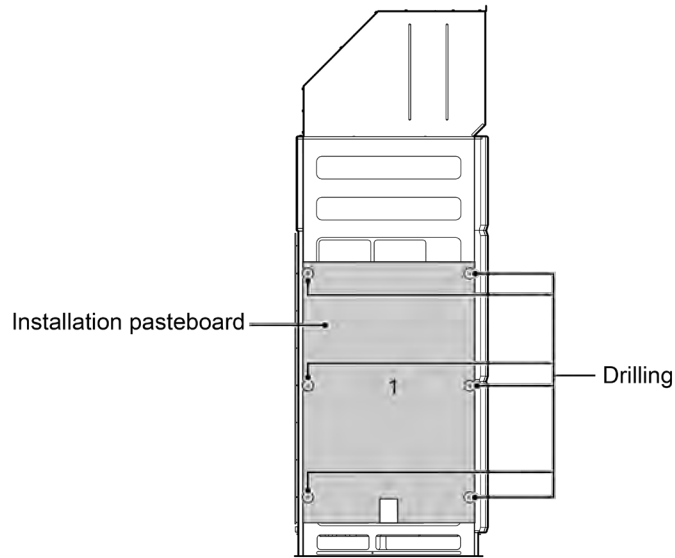

Fig. 3.9
(1) Drill the locating screw hole on the side plate. Fix the installation pasteboard 1 to the side plate of the unit, as is shown in Fig 3.9, then drill 6 holes with the drill  $\Phi 3.8$ , please pay attention to the drilling depth to avoid damaging the components nearby, otherwise, the unit might lose efficacy.